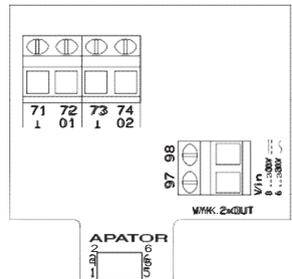

Fig. 19. Module view: 2 pulse outputs
- 2 pulse outputs module (module code 016), the module is shown in figure 19,
source is connected to terminals 97, 98. the polarisation of the connected power can be any. Figures 19 and 20 present the module supplied from the external power source. When the module is supplied from the calculator it is not equipped with the power terminal. Due to the high average current consumption by the pulse outputs it is recommended to use modules supplied from the external power source.